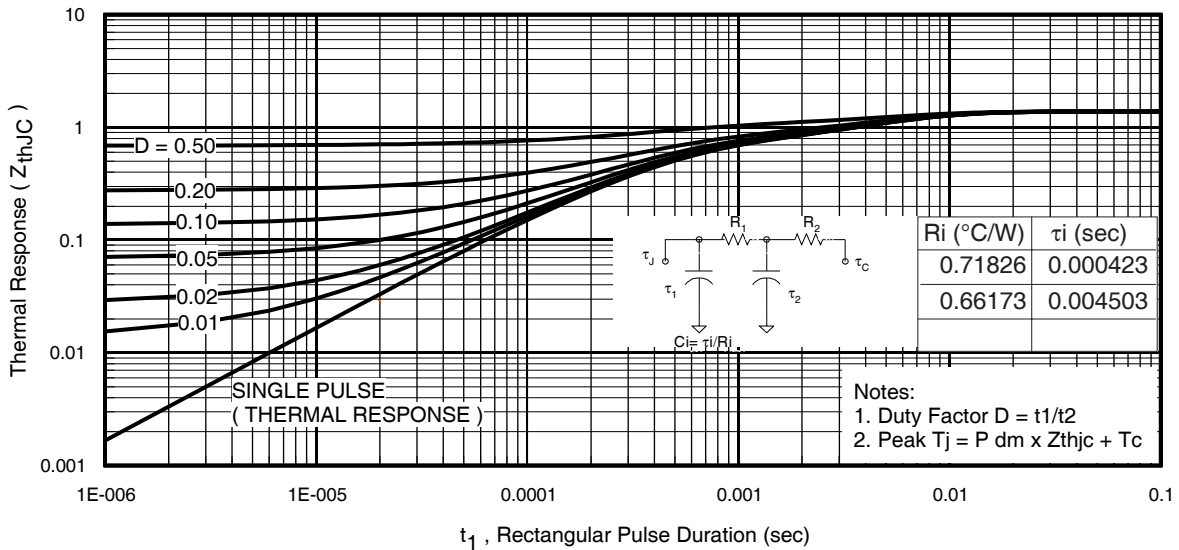
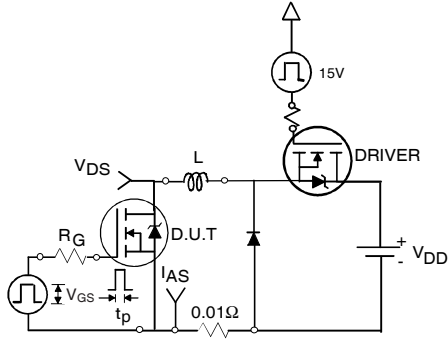

Fig 11. Maximum Effective Transient Thermal Impedance, Junction-to-Case
Fig 12a. Unclamped Inductive Test Circuit
3. Equation below based on circuit and waveforms shown in Figures 12a, 12b.
$Z_{thJC}(D, t_{av})$ = Transient thermal resistance, see figure 11)
- ① Repetitive rating; pulse width limited by max. junction temperature. (See fig. 11).
- ② Limited by T_{Jmax} ; starting $T_J = 25^\circ\text{C}$, $L = 0.21\text{mH}$, $R_G = 25\Omega$, $I_{AS} = 30\text{A}$, $V_{GS} = 10\text{V}$. Part not recommended for use above this value.
- ③ Pulse width $\leq 1.0\text{ms}$; duty cycle $\leq 2\%$.
- ④ C_{OSS} eff. is a fixed capacitance that gives the same charging time as C_{OSS} while V_{DS} is rising from 0 to 80% V_{DSS} .
- ⑤ Limited by T_{Jmax} , see Fig.12a, 12b, 15, 16 for typical repetitive avalanche performance.
- ⑥ This value determined from sample failure population. 100% tested to this value in production.
- ⑦ When mounted on 1" square PCB (FR-4 or G-10 Material). For recommended footprint and soldering techniques refer to application note #AN-994
- ⑧ R_θ is measured at T_J approximately 90°C